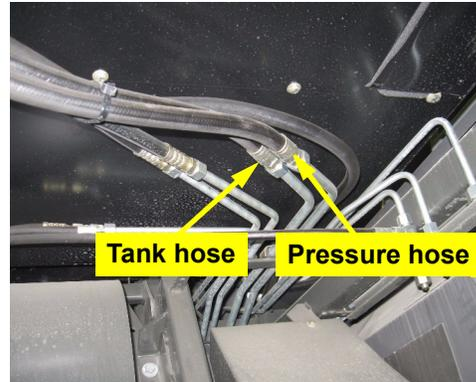

Figure 3a: Pressure and tank location
- a. Locate the pressure and tank hoses attached to the steering orbital under the cab (Figure 3a).